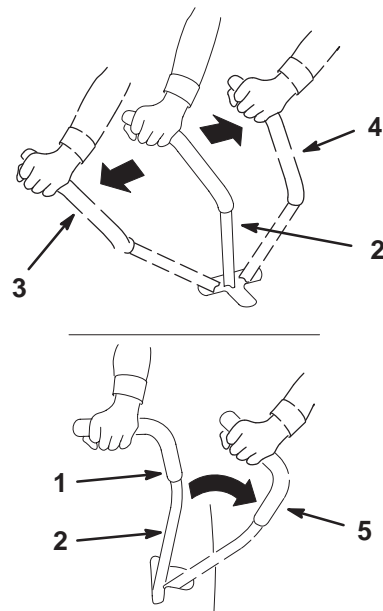

Figure 9
The parking brake is automatically set when the motion control levers are in the brake position (Fig. 9).
2. To go forward, slowly push the motion control levers forward (Fig. 9).
To go straight, apply equal pressure to both motion control levers (Fig. 9).
To turn, release pressure on the motion control lever toward the direction you want to turn (Fig. 9).
2. To go backward, slowly pull the motion control levers rearward (Fig. 9).
To turn, release the pressure on the motion control lever toward the direction you want to turn (Fig. 9).
4. Move the motion control levers to the center, unlocked position to disengage the brake (Fig. 9).